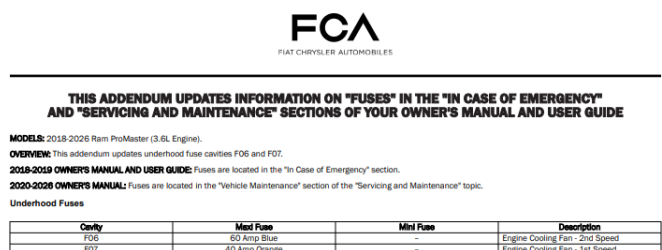

Figure 22 – Owner Manual Update
59. Place the Owner's Manual Addendum in the glovebox with the Owner's Manual (Figure 22).